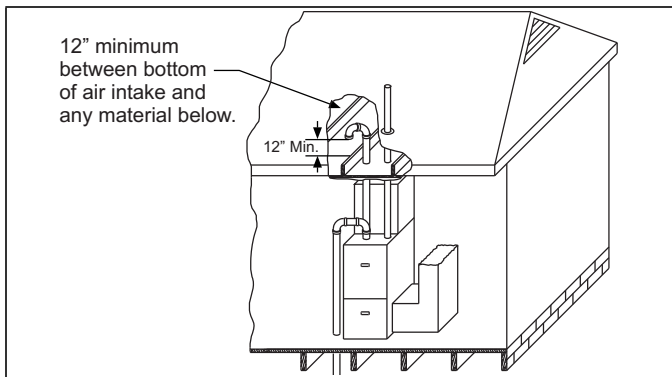

FIGURE 36: Attic and Crawl Space Combustion Air Termination
3. **VENTILATED COMBUSTION AIR:** Combustion air is supplied through a PVC or ABS pipe that is connected to the PVC coupling attached to the burner box and is terminated in a ventilated attic or crawl space. The combustion air and the vent pipes are not terminated in the same atmospheric zone. Refer to Figure 36 for attic and crawl space termination. Only the combustion air intake may terminate in the attic. The vent must terminate outside.
Refer to Figure 36 for required attic termination for the combustion air intake pipe. For attic termination, use two 90 elbows with the open end in a downward position. Be sure to maintain 12" (30.5 cm) clearance above any insulation, flooring or other material.